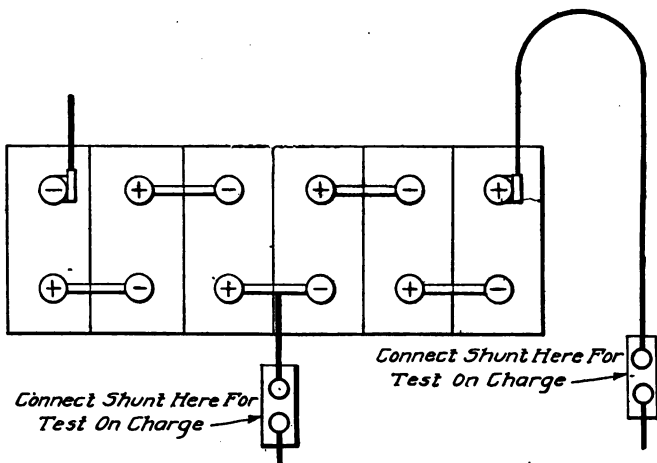

Fig. 405. Setup for Twelve-Volt Battery Wired to Charge and Discharge through Starting Motor at Twelve Volts and through Lamps at Six Volts
*Connections for Two-Voltage Batteries.* Where the battery is of either three or six cells, all connected permanently in series, the foregoing suggestions for connecting the testing instruments apply. They must be varied, however, where tests are to be made of batteries connected in series multiple, which may be termed two-voltage batteries since they supply current at one voltage for lighting and at another for starting. In Fig. 405 is shown a battery of this type which is connected so as to charge and discharge through the starting motor at 12 volts, but which discharges at 6 volts to supply the lamps through a neutral lead in the center of the battery. The sketch indicates where to connect the ammeter shunt on charge at